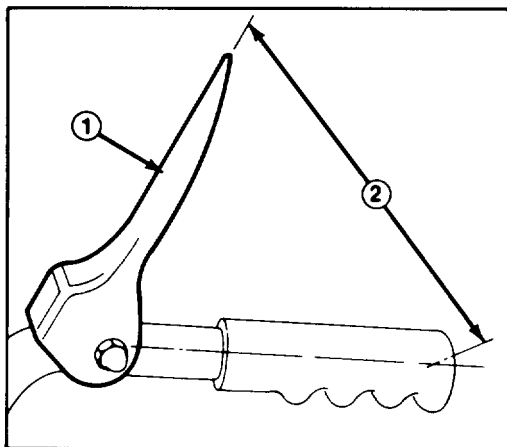

Figure 4
5. Slowly pull machine backward while slowly depressing traction control lever toward handle. Adjustment is correct when wheels stop turning and the distance between the top of the traction control lever and the center of the handle is 4 1/2 inches (11.5 cm) (Fig. 4).